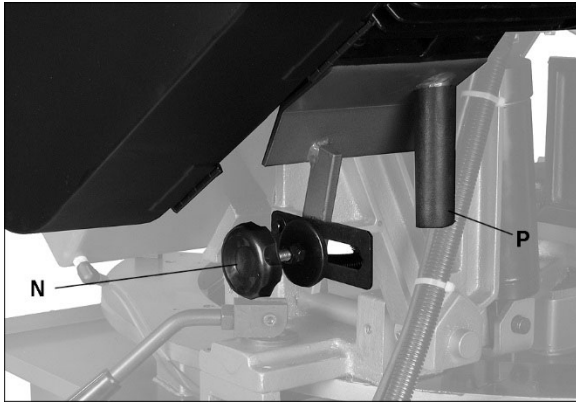

Figure 7-4: belt de-tensioning
Refer to Figure 7-4.
2. Grasp handle (P, Figure 7-4) and loosen knob (N). Allow motor assembly to drop, which will de-tension belt.